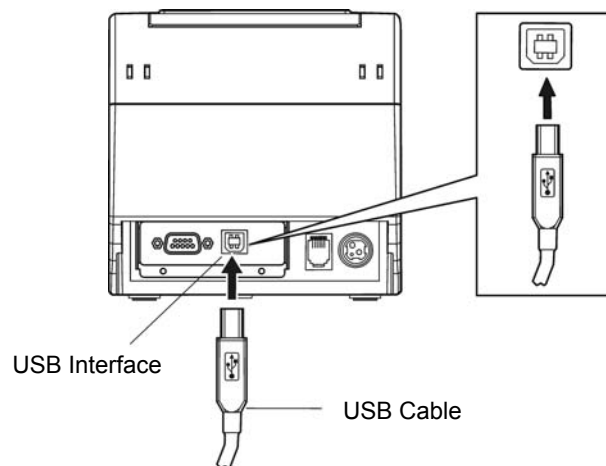

Fig 2-3 Connecting the USB interface cable
1. Plug the USB cable A end (flat shape) into the computer's USB interface as shown in Fig2-3.